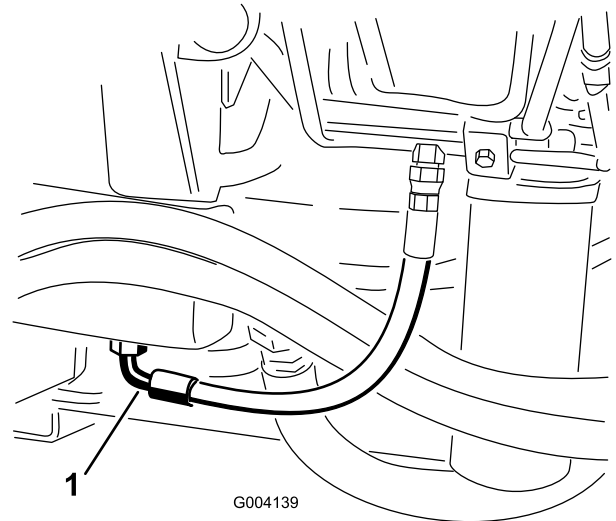

Figure 59
2. Place a large drain pan under the fitting secured to the bottom of the hydraulic fluid reservoir (Figure 59).